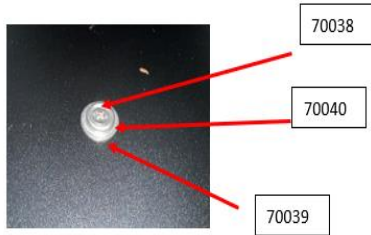

Figure 19: Mounting Hardware Inside Box
30. Mark and drill 5/16" holes through the back of your box into the cross pipe in the middle of the base unit, and through the bottom of the box into the support posts. Secure box to rail using the hardware shown in figures 19 and 20 below.